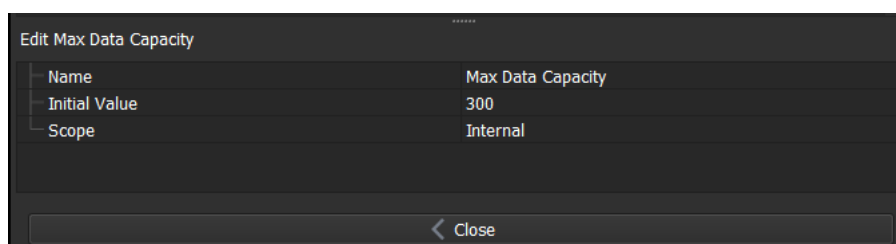

Fig. 3-8: Editing Text Edit Behaviour Settings
- 4 Double-click on the **TextEdit Value** Behaviour box in the graphical editor screen to change some Behaviour settings (see Figure 3-8):